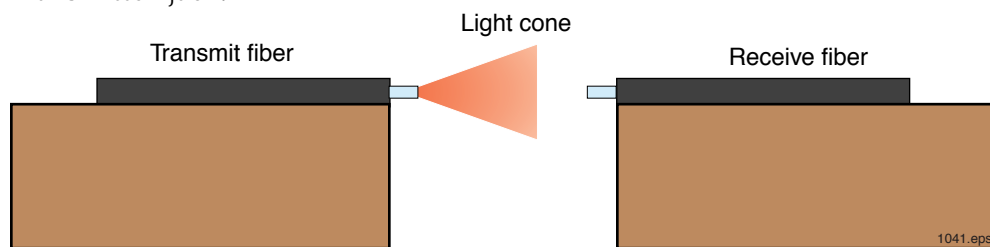
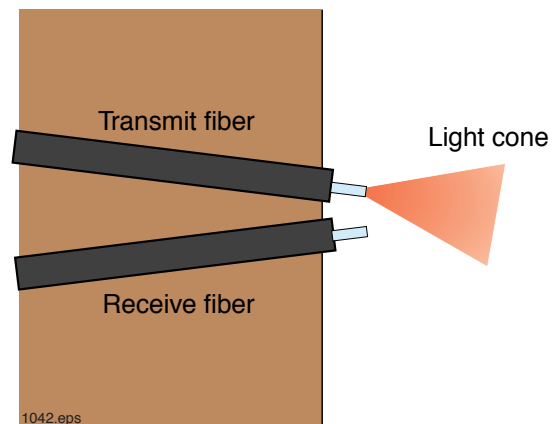

Figure 11. Side view of the Transmit optical fiber and Receive fiber pointed at each other for use in an active optical sensor.
Figure 12. Top view of the Transmit and Receive fibers arranged in a reflective sensing configuration.
16. Rearrange the optical fibers side by side on a single book, angled slightly toward each other, as shown in Figure 12.
22. How is this sensor configuration in Figure 11 different than the one in Figure 12? Is it the opposite—that is, does the volume increase when objects are present?